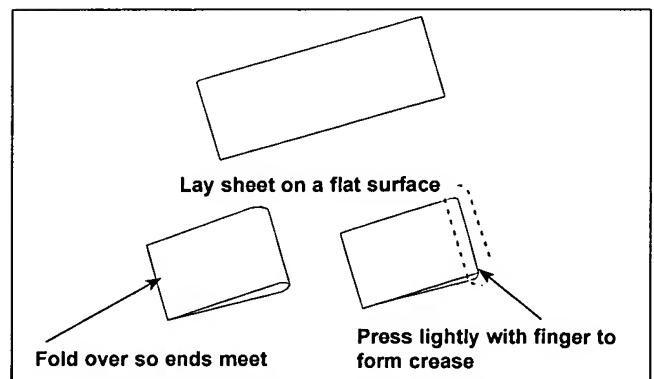

Figure 2. Folding Release Sheet
- release sheets (Figure 2)
2. Remove the release sheet from the plastic bag and lay it on a clean, flat surface. Fold the sheet *exactly* in half (Figure 2).
3. Crease the sheet at the fold using only your fingers (Figure 2).